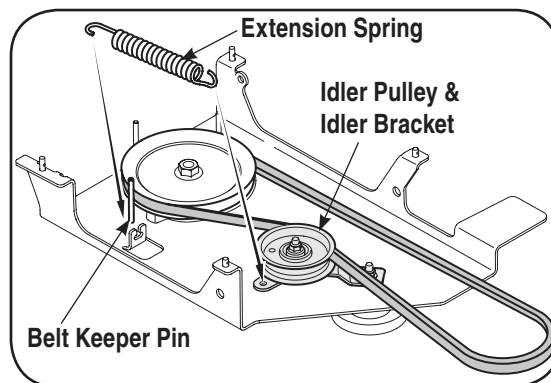

Figure 4-1
1. Attach one end of the extension spring (732-0594A) to the hole in the idler assembly. Mount the opposite end of the extension spring to the belt keeper pin as illustrated in Fig. 4-1.